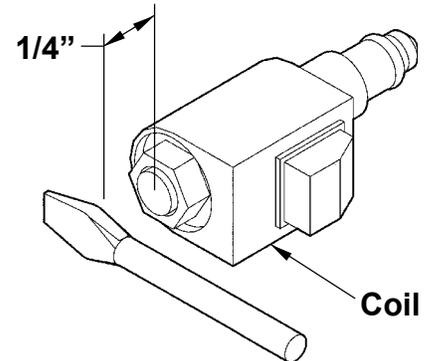

FIGURE 1
1. Check Solenoid Valves for electrical shorts by holding a screwdriver approximately 1/4" from the top nut of the Solenoid. (See Fig. 1). The solenoid should not draw the screwdriver to the nut with a magnetic force, unless the toggle switch is actuated. The Coil can be replaced by removing the Nut and Wires.